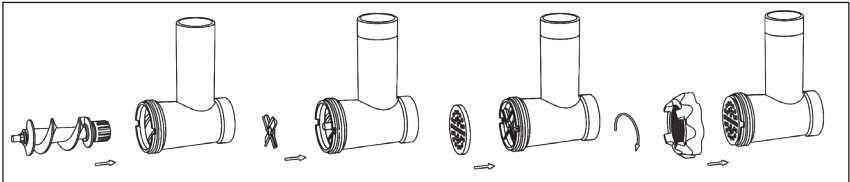

Fig. 2
- Place the snake into the head, long end first, and turn to feed the screw slightly until it is set into the motor housing (fig.2, Page 10).
- Place the cutting blade onto the snake shaft with the blade facing the front as illustrated (fig.2). If it is not fitted properly, meat will not be grinded.